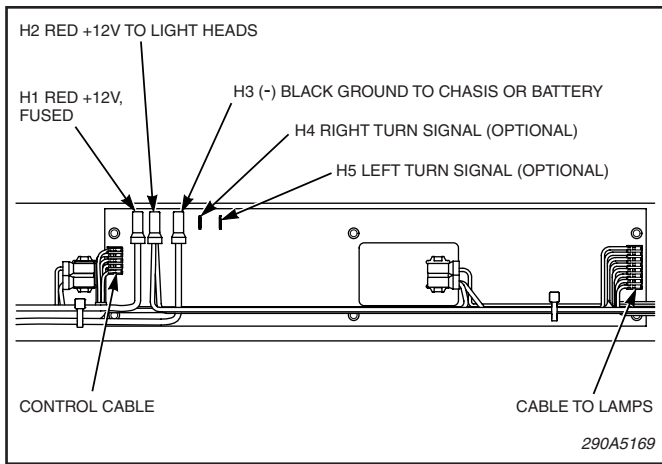

Figure 3.
d. See figure 3. Connect the two right angle terminals to connectors H4 and H5. Note which wire is attached to H4 and to H5.